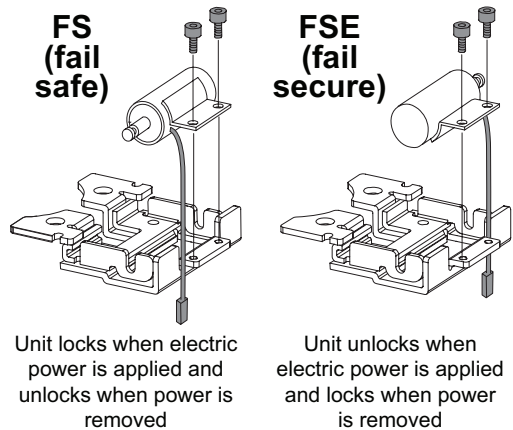
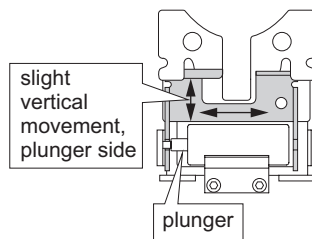

Figure 1-3
Figure 1-4
1.3. Remove the two solenoid screws using 7/64" hex wrench. Flip solenoid to correct direction for FS (fail safe) or FSE (fail secure) as shown below. Route wires through opening as shown and secure solenoid with two screws (Figure 1-3). After tightened, blocking slider must move freely (Figure 1-4).